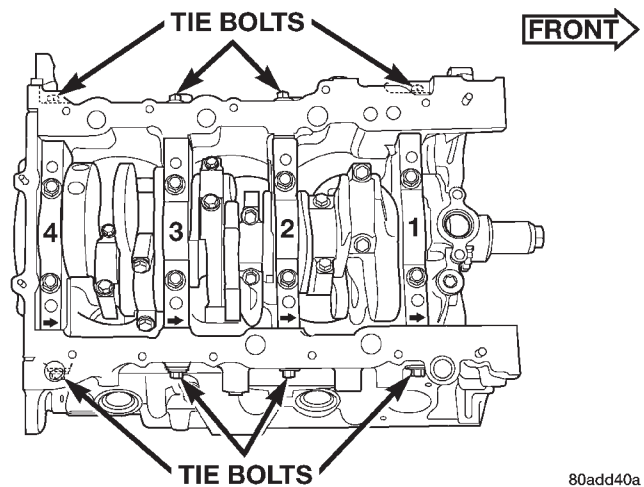

Fig. 71 Main Bearing Cap Identification
- (17) Remove main bearing cap bolts and tie bolts (Fig. 71).
- (18) Remove main bearing caps (Fig. 71).